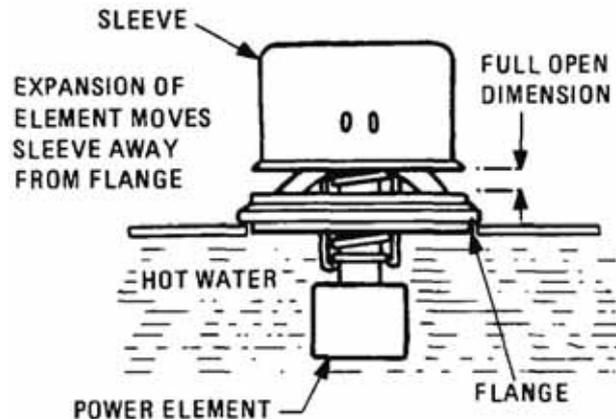

Figure 49 Wax Pellet Type Thermostat
69. The thermostat is a heat sensitive valve, which controls the flow of coolant in the cooling system. When the engine is cold, the thermostat is closed thus restricting the flow of coolant to the radiator. The coolant now flows through a short bypass hose directly back to the water pump and then to the cylinder block. This circulation of coolant within the engine allows the engine to warm up quickly, and prevents any undue pressure build up at the water pump. When the coolant temperature reaches 81 °C to 83 °C (177 °F to 182 °F), the thermostat starts to open and should be fully open – 9.5 mm (3/8 in.) – at 94 °C to 96 °C (202 °F to 207 °F) allowing the water to circulate through the engine and radiator without restriction as shown in Figure 49.